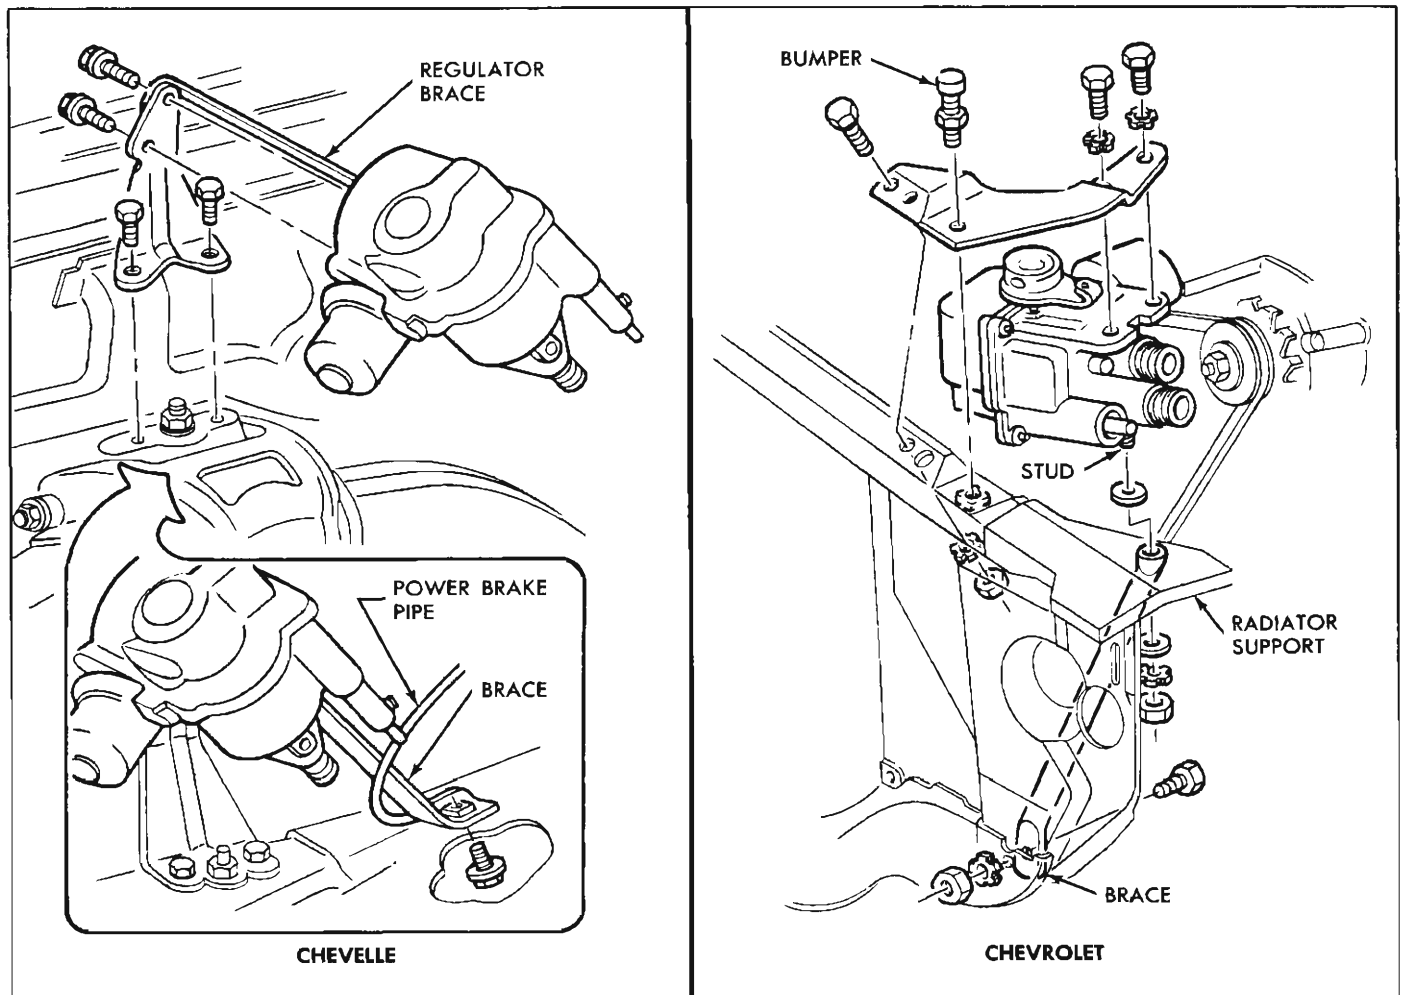

Fig. 77—Power Unit Installation
6. Remove bolts securing power unit to mounting brackets and remove power unit, (See Figure 77).